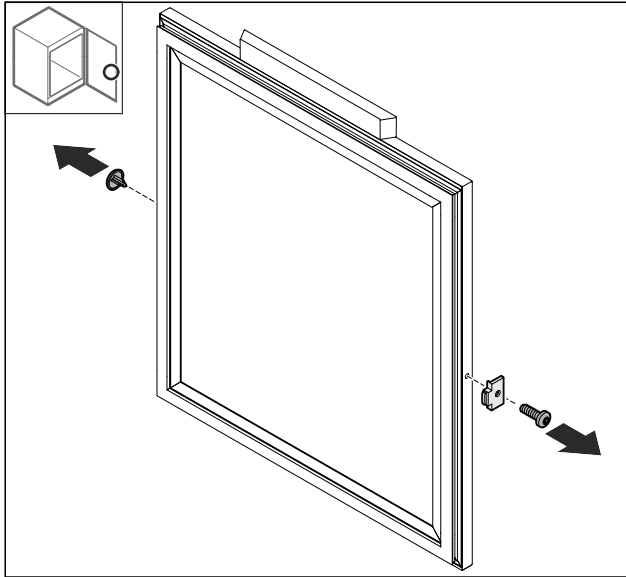

Fig. 48
- ▶ Remove cover Fig. 48 (1).
- ▶ Detach the Fig. 48 (2) door stopper.